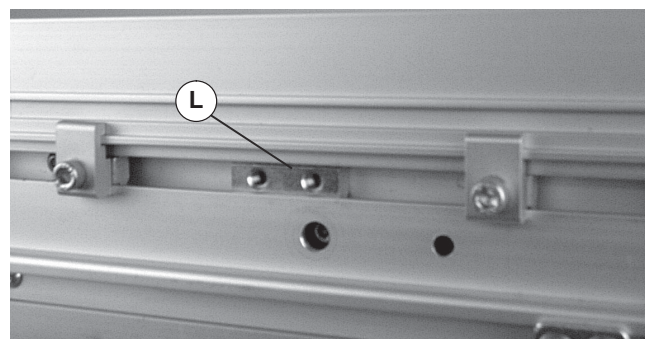

Figure 5
2. Install T-bar (Figure 5, item L) in each side of conveyor.